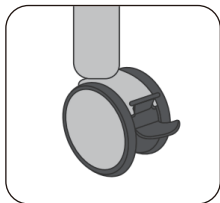

Figure 4.1 Locked
- Step on the brake switch (long handle) of the front casters,the casters will be locked.(Figure 4.1)